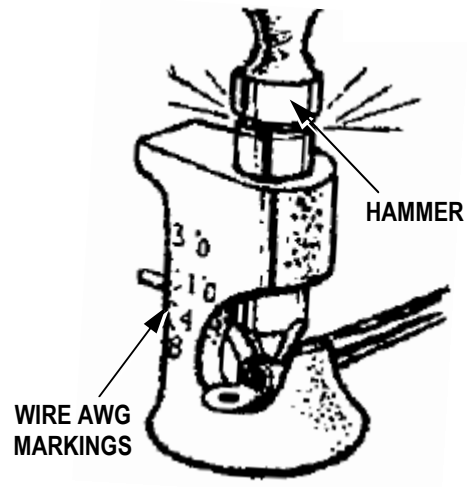

Figure 3
8. Using a 2lb hammer strike the top of the ram until the lift lever is lined up with the correct AWG marking located on the side of the tool. See Figure 3.